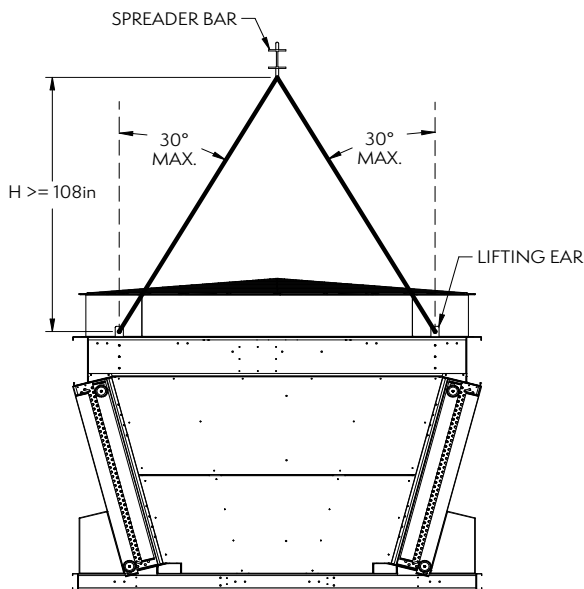
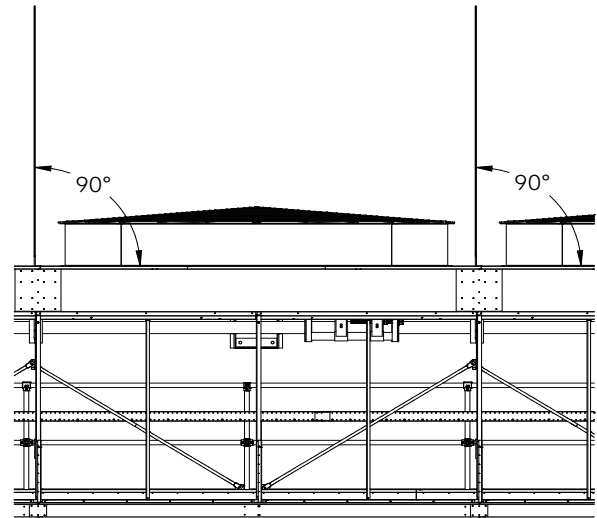

Figure 22.1 – Upper Section End Elevation View
Figure 22.2 – Upper Section Side Elevation View
2. Care must be taken to ensure that the 'H' dimension for the crane lift is greater than or equal to 9' (2.7m) from the fan deck as shown in Figure 22.1. When viewed from the side, the lifting angle must **ALWAYS** be 90 degrees (perpendicular) to the fan deck of the unit, see Figure 22.2. The centerline distance between the upper section lifting ears on the end elevation view is 9' 1-7/8" (2790mm).